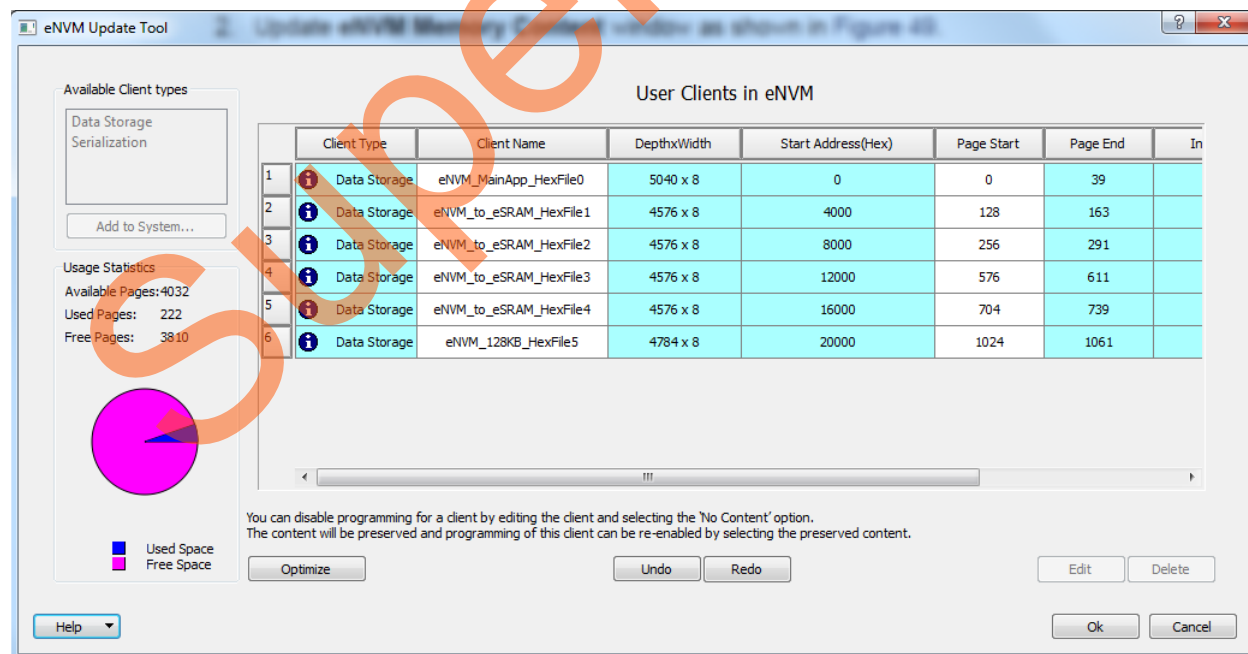

Figure 49 • Update eNVM Memory Content Window
2. Update eNVM Memory Content window as shown in Figure 49.